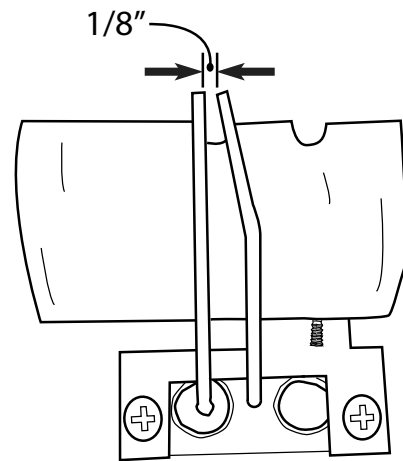

Fig. 12 Proper probe spacing for good ignition.
NOTE: Ensure the probes are aligned over-top of the rainshield notched/cutout area and are spaced approximately 1/8-inch apart from the end/tips, above the burner tube (See Fig. 12).
Step 9: Test the ignitor by pushing and holding the red button to ensure the 2-probe ignitor is sparking inside the ignition box in the burner pan. The spark should be located directly over top of the burner port hole for proper ignition of the gas as previously discussed. Spacing between the probes should be approximately 1/8" for proper spark. See Fig. 12 on page 4 if necessary.
3. Gas should ignite within 10 seconds or less. If fire pit does not light within 10 seconds turn OFF the gas supply. Check ignitor probe location (Figs. 12 & 14), ensure there is an 1/8" gap between the probes with a good strong spark then repeat steps 2 through 4.